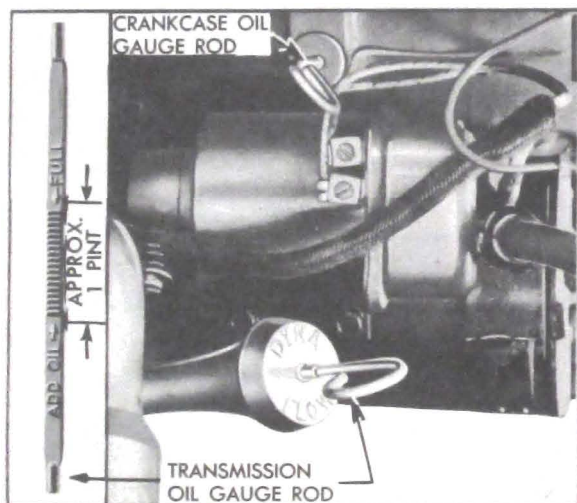

Figure 1-3—Dynaflo Oil Gauge Rod
5. **Dynaflo Transmission.** Check transmission oil level, *with transmission oil warm, transmission in Parking, and engine idling.* Remove gauge rod located under right side of hood (fig. 1-3), wipe dry with clean cloth then reinstall to full depth. Remove rod and note oil level.